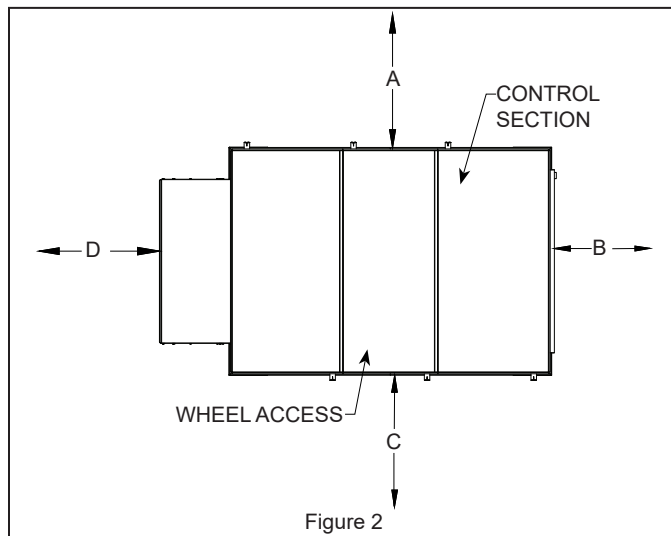

Figure 2
1. Roof Mounting Frame (RMF) must be squared and positioned to provide minimum clearances shown in **Figure 2**. (See Page 18 for dimensions)